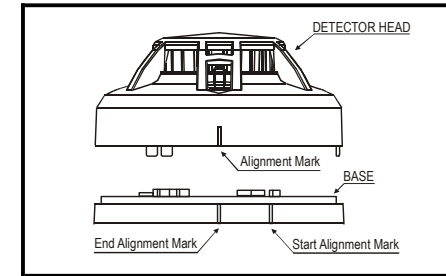

Figure3 Mating Detector Head onto Base
1. Align detector head alignment mark line with the base's start alignment mark line as shown in Figure 3.